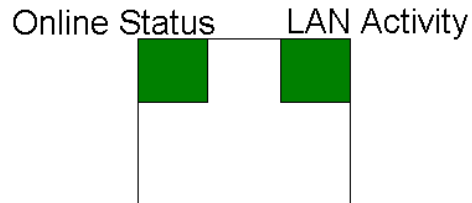

Figure 3-2: LAN Port LEDs
The LAN port comes with two (2) LEDs. As shown in **Figure 3-2**, one LED indicates the online status and the other indicates LAN activity. The LED definitions are shown in **Table 3-3**.